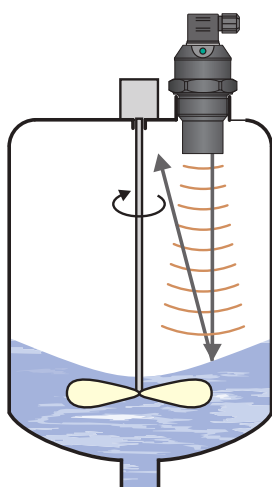

Fig. 11: Strongly stirred surface
- p) False surface reflections of the ultrasonic signal and unreliable operation of the device might result from the mixer's rotating blades that ripple the surface level (Fig. 11).